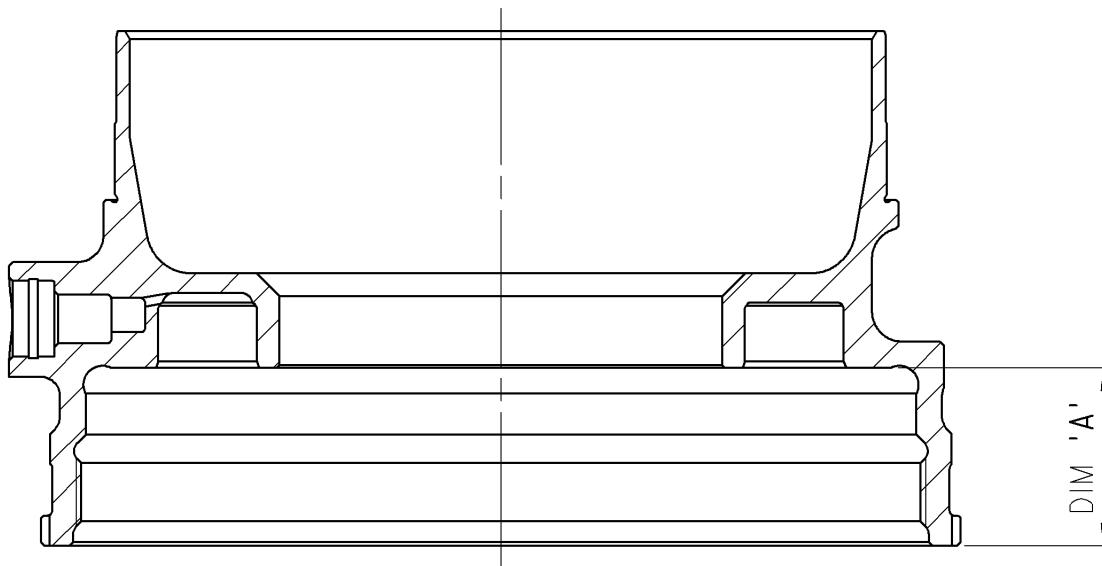

Figure 9 – Diff Lid Height Measurement
1. Measure the diff lid height as shown in Figure 9 (Dim A)